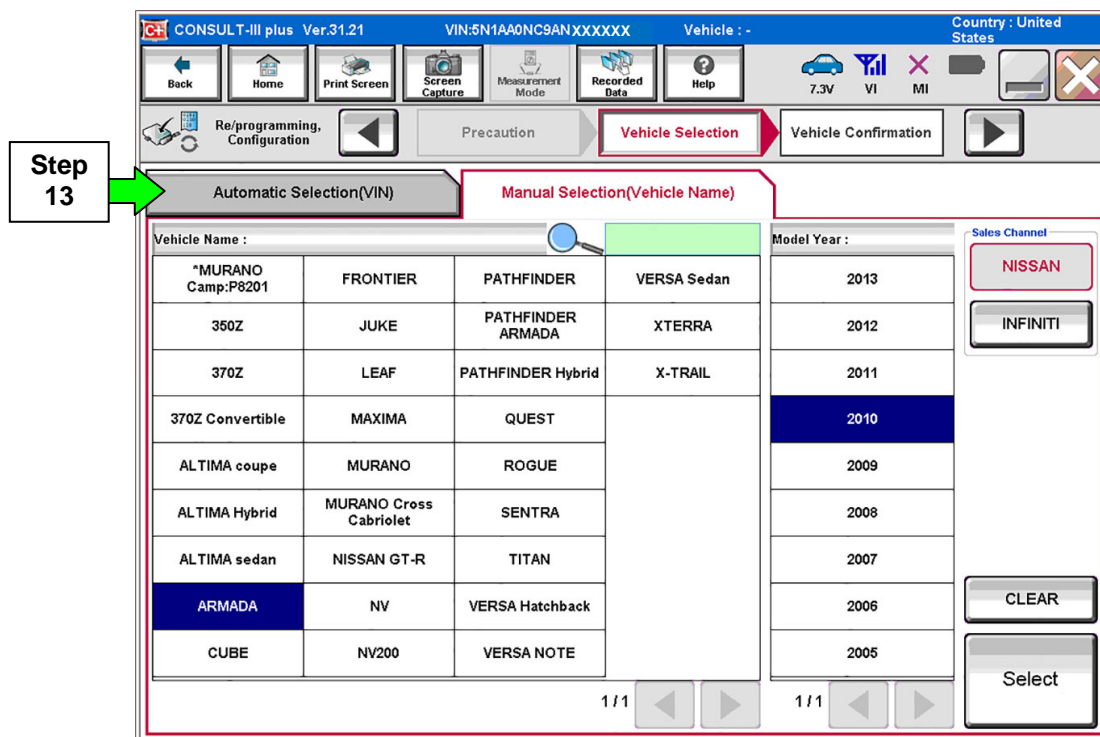

Figure 3
13. If the screen in Figure 3 displays, select **Automatic Selection(VIN)**.
- If the screen in Figure 3 does not display, skip to step 14.